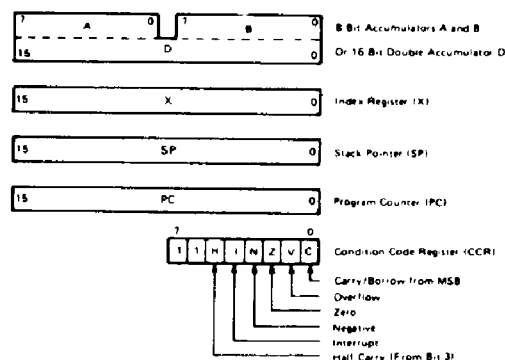

Figure 23 CPU Programming Model
- **CPU Programming Model** (refer to Fig. 23)
Fig. 23 depicts the HD6303X programming model. The double accumulator D consists of accumulator A and B, so when using the accumulator D, the contents of A and B are destroyed.